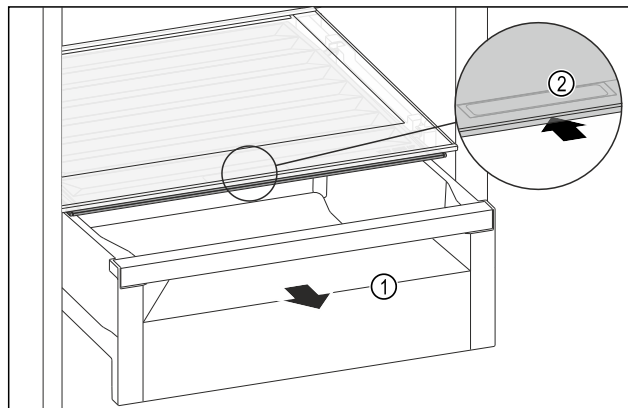

Fig. 138
- Pull out the drawer Fig. 138 (1).
- Grip the handle recess Fig. 138 (2) on the lid while pulling the lid backward at the same time.